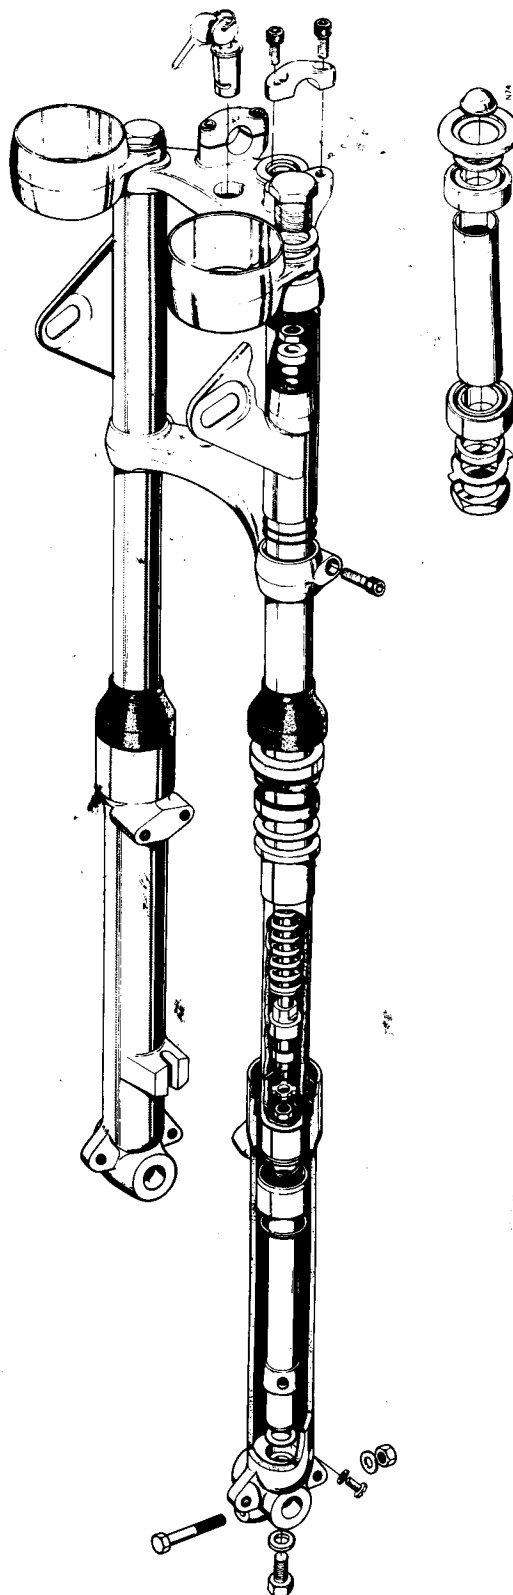

Fig. G5 Front fork exploded view
Consider that as the front wheel meets a bump in the road surface the front forks are compressed against the main springs. As the wheel passes the bump the forks are permitted to return to the static position. Should the motor-cycle become "front end light" such as negotiating a hump-backed bridge, the fork extends fully but once again on level road, returns to the static position. The natural tendency for a spring controlled suspension system is to over react and oscillate before returning to static position. Such a system would result in a pitching motion on rough roads and a subsequent loss of stability. To counter this condition, oil damping is provided which in the case of the Commando fork slows down the spring return both on compression and extension. Each fork slider contains 150 cc of oil which is metered by a rod and valve damper assembly. The damping sequence is detailed in the following text and the complete fork assembly is shown in *Fig. G5*. In the latter diagram "A" illustrates the fork at rest with parts descriptions, "B" the fork compressing and "C1" and "C2" the fork extending.
- 6 Remove the damper tube anchor bolt (the various components are shown in *Fig. G5*) and collect the thick washer.
- 2 Grip the damper rod in a vice and fit the damper valve stop pin. The order of assembly is shown in Fig. G5.